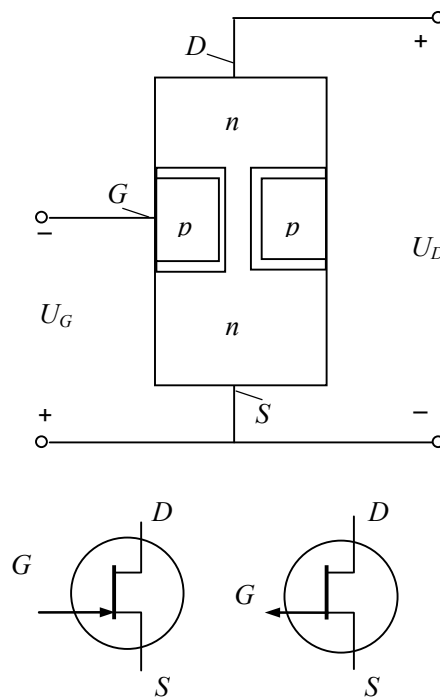

Fig. 1.32
**Structure.** Fig. 1.32 illustrates the normal way to bias a JFET. The bottom lead is called a *source*, and the top lead is a *drain*. The source and the drain of a JFET are analogous to the emitter and collector of the bipolar transistor. In the case of a *p*-channel JFET, a *p*-type material with different islands of *n*-type material is used. The action of a *p*-channel JFET is complementary, which means that all voltages and currents are reversed.
Fig. 1.32 shows schematic symbols of  $n$ -channel and  $p$ -channel JFETs also. A schematic symbol of the  $p$ -channel JFET is similar to that of the  $n$ -channel JFET, except that the gate arrow points from the channel to the gate.